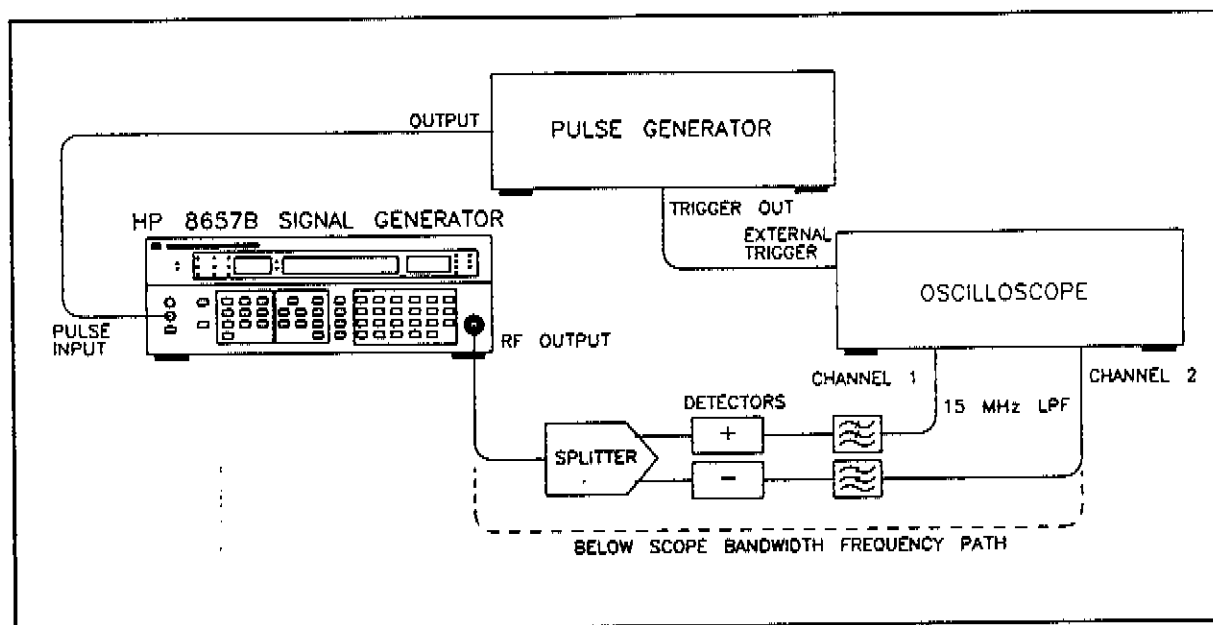

Figure 4-14. Rise/Fall Time Test Setup with Peak Detectors
36. Connect the equipment as shown in Figure 4-14. Low Pass Filters can be constructed using the schematic in Figure 4-15.